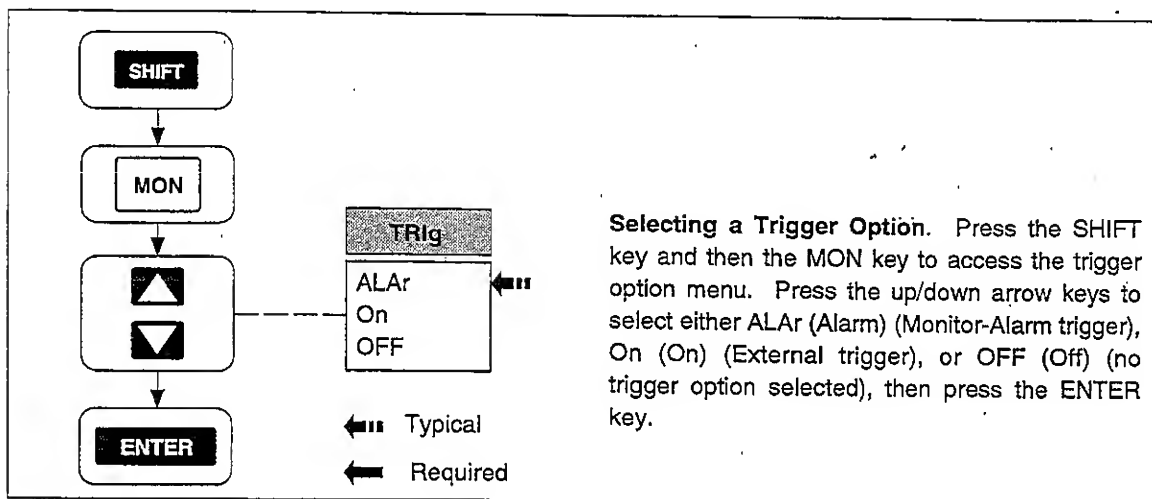

Figure 2-19. Scan Triggering Options
Perform the procedure in Figure 2-17 to start and stop the Monitor Mode of operation. The Monitor Mode can be started when the instrument is in the inactive mode or in the Scan Mode. The Monitor Mode commands the instrument to display the present measurement for any selected channel (except channels set to OFF) and to display alarm information if the channel is in alarm. If the Monitor Mode is used without the Scan Mode, the instrument operates like a multimeter. If the Monitor Mode is used with the Scan Mode, the instrument also operates like a multimeter but measurements can be recorded into memory, printed out, and reviewed (maximum, minimum, last values). The Monitor-Alarm triggering option uses the Monitor Mode to start or stop scans when a selected channel goes into or out of alarm (see Figure 2-19). If the instrument is in the Monitor Mode and scanning using the memory card, any illegal memory card operations are noted only with a double "beep." When you hear a double beep, exit the Monitor Mode and investigate the memory card error (see Figure 2-16).
- Scan Triggering Options (Figure 2-19)
Perform the procedure in Figure 2-19 to select a triggering option, which can be applied when the instrument is in the inactive mode (not scanning or monitoring). Normally, a scan is started by pressing the SCAN key, but two options can be selected to start a scan from either an external trigger input or from a monitor-alarm condition. The SCAN key overrides a triggering option.